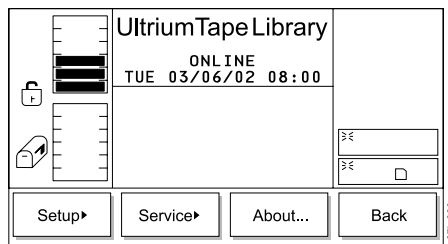

Figure 354. Main Menu (alternate screen)
1. From the Main Menu's initial screen, press the button below the **More** softkey. The Main Menu's alternate screen displays (see Figure 354).